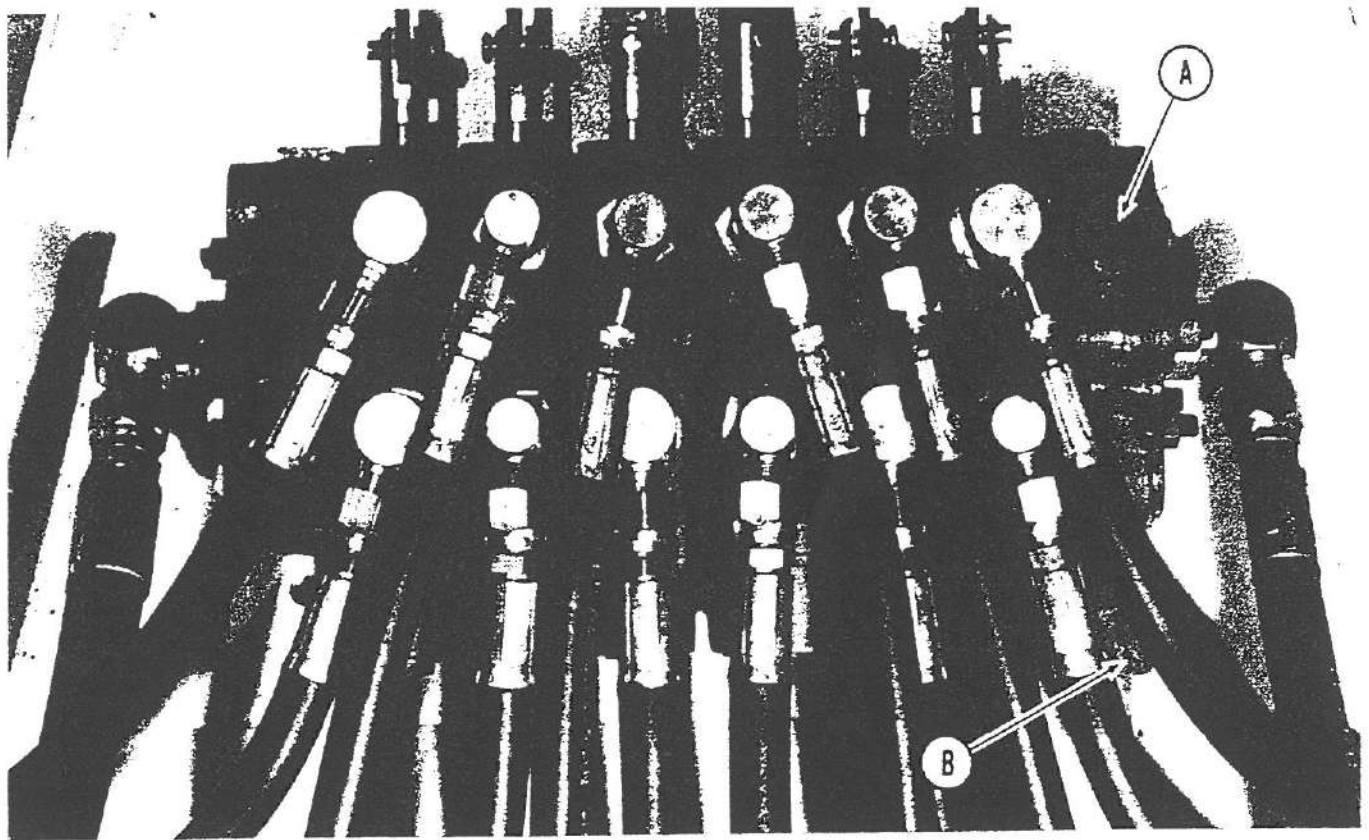

Figure 22
1. Remove O-ring plug (Point A- Figure 22) and install a hydraulic gauge and adapter at this point. A gauge and adapter kit can be ordered from the factory. – Part #BVV10076
Adjusting the main relief (Point B-Figure 22) remove cap, loosen locknut, hold stabilizer in top position as described in item number 3 above. Screw clockwise to increase pressure or counter clockwise to decrease pressure. When the correct pressure is reached (1400 P.S.I.) lock nut and replace cap.